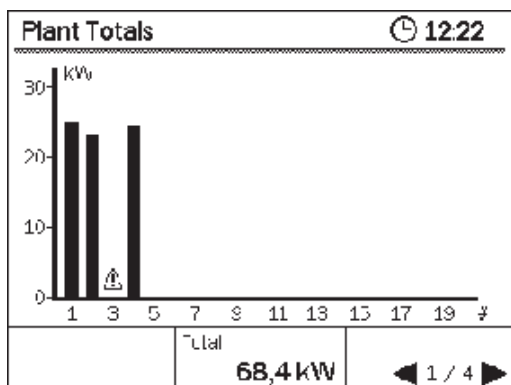

Figure 8-5: Plant Totals screens 1
The Plant Totals (PT) Overview screen shows a bar graph summarizing the performance of the entire PV plant. Each bar represents the actual* AC power output of one inverter. In case a particular inverter has an error, an exclamation mark symbol is shown instead of the power bar. See figure 8-5. Below each bar, each inverter is referenced with a number. This number corresponds with the inverter number used in the next Plant Totals screens. In the bottom of the screen, the actual* sum of all power generated by the plant is shown. Pushing the BACK button has the display return to the Home Screen. Pushing the LEFT or RIGHT navigation button will scroll to the previous/next Plant Totals screen.